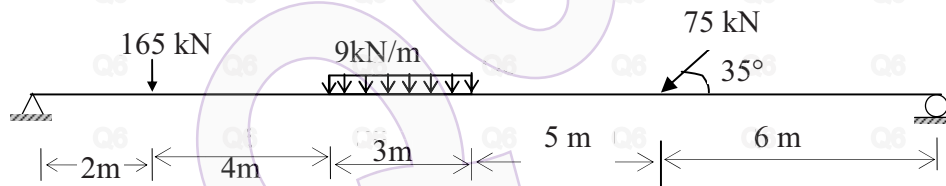

Figure 1
- b) Draw shear force and bending moment diagrams for the beam shown in Figure.1. [15]